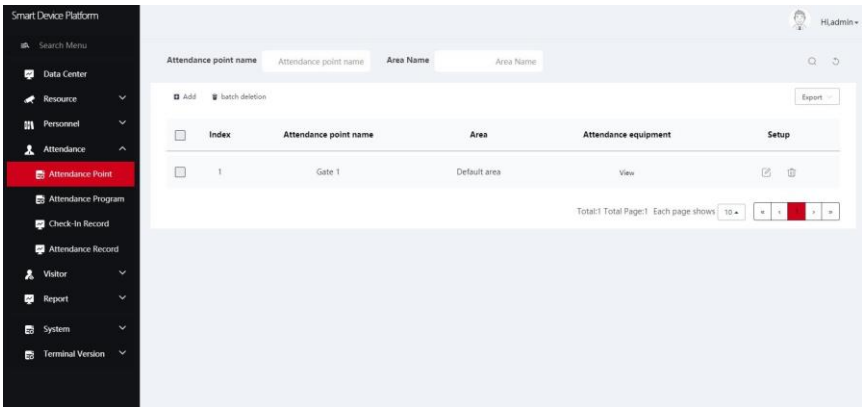

Figure 5-87
Step 1: Click "Attendance Management → Attendance Point" on the smart terminal platform interface to enter the attendance point interface, as shown in Figure 5-87.